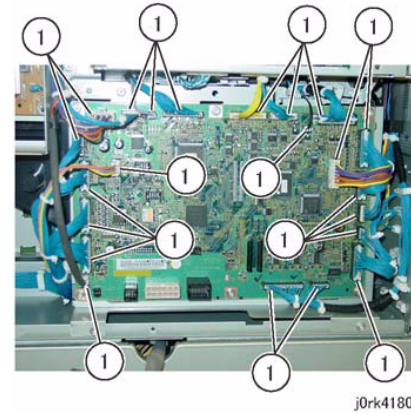

Figure 1 MCU PWB Connectors
3. Disconnect the MCU PWB connectors (x22). (Figure 1)